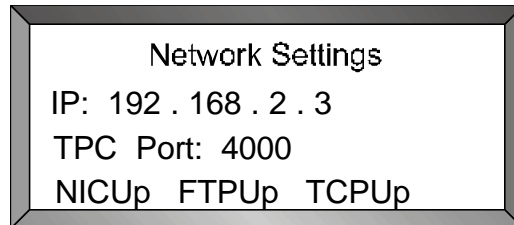

Figure 1.2.1 Network Screen on Eagle
You will need to choose an IP Address for your Eagle. If you are using a direct connection to your PC, then we recommend that you use the default address of 192.168.2.3. If your Eagle already has this address, then you are ready to go to 1.2.3. To check your Eagle's current IP address, press Ctrl-W on the Eagle's handheld terminal to bring up the network screen (see figure 1.2.1).
1. Press Ctrl-W to jump to the network screen (see figure 1.2.1).
Type the IP address on the *Eagle Printer* into Printer 1. This value can be found by pressing Ctrl-W on the handheld terminal (see figure 1.2.1). Type the IP addresses of any additional printers (up to 5) you will be networking to into Printer 2-5.